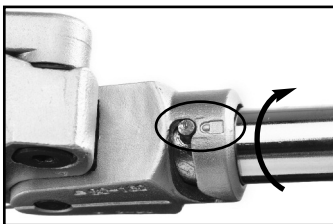

Figure 14 – LOCK
3. Turn the Carriage Handle so that the pin moves toward the “lock” position. Make sure the Handle is secure to the Carriage. (Figure 14).